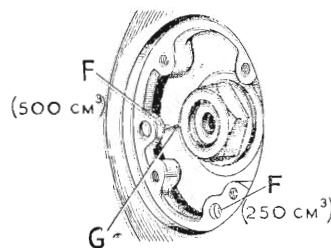

FIGURE 14.
Provision is made on all engines for the use of this device, comprising a pointer (F) FIG. 14, on the interior of the chaincase cover and marker line (G) on the alternator rotor, both of which are exposed after removal of the circular cover on the front of the chaincase. The position of the pointer differs for the 250³ cm and 500 cm³ models. The strobelight must be connected in accordance with the manufacturer's instructions, and it is important to note that an independent battery must be used for this operation, not the one on the machine.